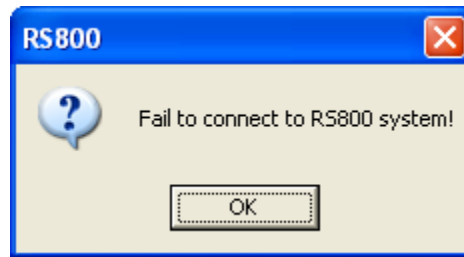

Fig. 30
Step 4: Click on “OK” and the RS800 software is now connected to the tester. If you have chosen the incorrect serial port, the window will show: (Fig. 30)